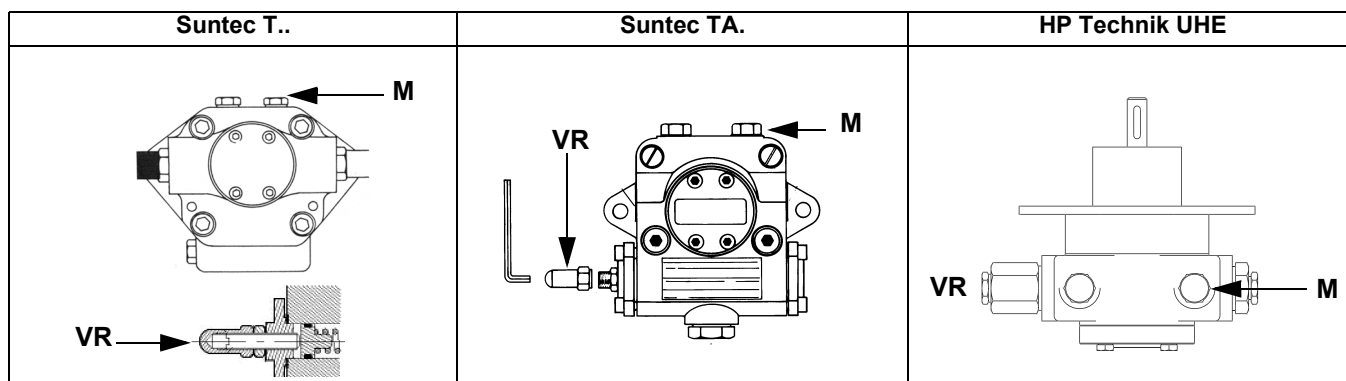

Fig. 4
- 3 bleed the air from the **M** pressure gauge port (Fig. 4) by loosening the cap without removing it, then release the contactor.
- 5 Only if necessary, adjust the supply pressure as follows (see related paragraph); insert a pressure gauge into the port shown on Fig. 5 and act on the pump adjusting screw **VR** (see Fig. 4) as to get the nozzle pressure at 20bar (Monarch or Fluidics nozzles - see page 43-38).
2. Slide VD forward up to the stop, fig. 4.